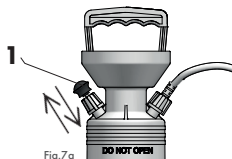
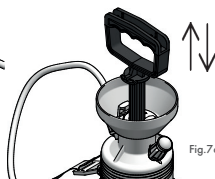
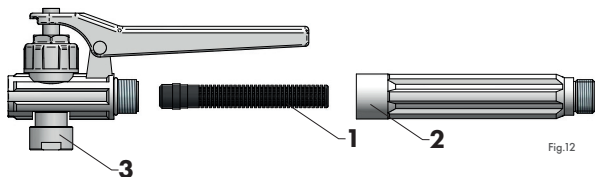

Fig. 7a
Fig. 7c
Fig.12
In order to depressurise the tank (fig. 1/pos. 8), pull the safety valve pin (fig. 7a/pos. 1) and hold it in this position for at least 10 seconds, until the tank is completely depressurised.
Screw in the pump and operate the piston rod several times (fig. 7c) in order for the safety valve to open automatically (fig. 7a). If the valve operates correctly, the valve pin (fig. 9a/pos. 1) will lift upwards (the valve will open), which will be accompanied with the sound of escaping air.
Move the sprayer to the work site. Use the piston rod (fig. 7c) to pump the sprayer (around 20 full motions) until the safety valve operates (fig. 7a/pos. 1). As soon as the safety valve opens (fig. 7a/pos. 1), maximum tank pressure has been reached. Monitor the tank pressure on the pressure gauge (fig. 12/pos. 3).
During operation, the pressure in the tank will decrease. Monitor the pressure on the pressure gauge (fig. 12/pos. 3). Restore the tank pressure by pumping.
Each time after work wash the sprayer thoroughly with clean water. Depressurise the tank (fig. 1/pos. 8) by pulling the safety valve pin (fig. 7a/pos. 1). Remove the pump (fig. 1/pos. 5), pour clean water into the tank (fig. 1/pos. 8, approx. 0.25 of the tank capacity), screw in the pump (fig. 1/pos. 5) until sealed and pump the tank. Conduct some spraying onto the previously sprayed surfaces in order to rinse the device's spraying system. After you finish, depressurise the tank (fig. 1/pos. 8) with the safety valve (fig. 1/pos. 6) and remove the head (fig. 1/pos. 5). Remove the remaining water from the tank.
The filter (fig. 12/pos. 1) located on the lance handle (fig. 12/pos. 2) and the adjustable nozzle (fig. 10/pos. 1) located at the lance tip (fig. 1/pos. 1) must be cleaned periodically and before any prolonged downtime.